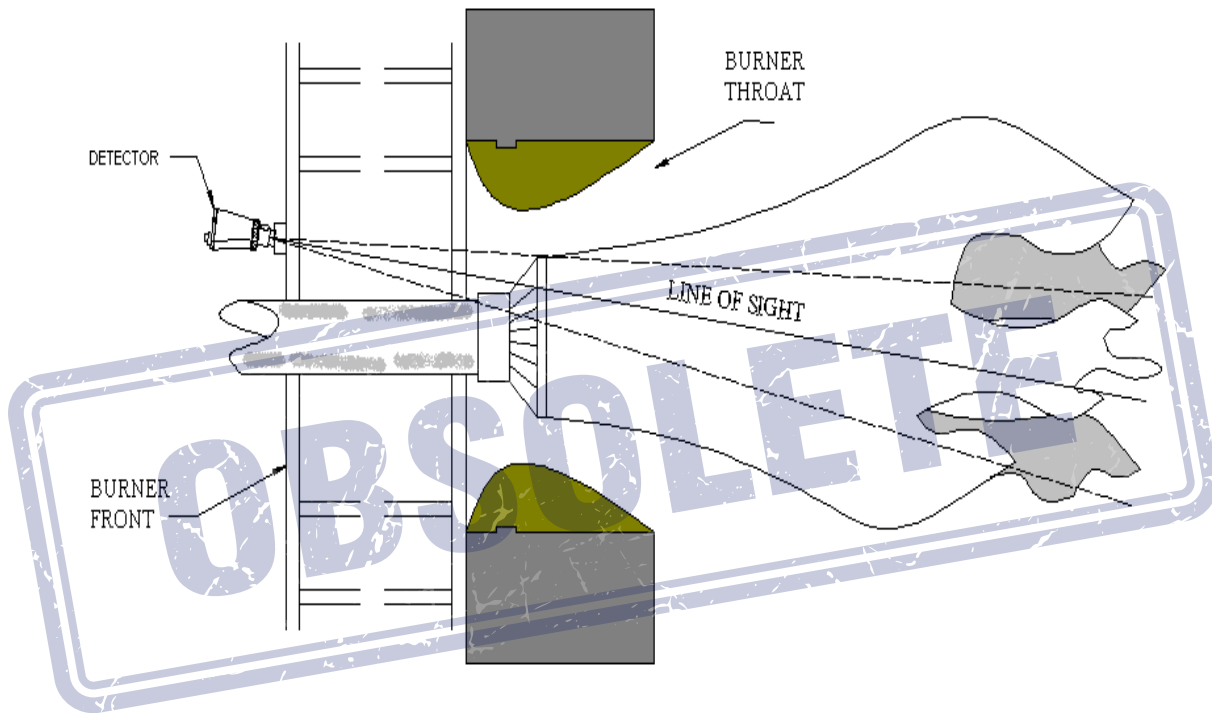

Figure 3 - Line of Sight Installation
1. The best results are obtained when the detector is aimed so that the detector's line of sight intersects the burner center at a slight angle (e.g. 5 degrees) and sees a maximum of the primary combustion zone as shown in Figure 3.